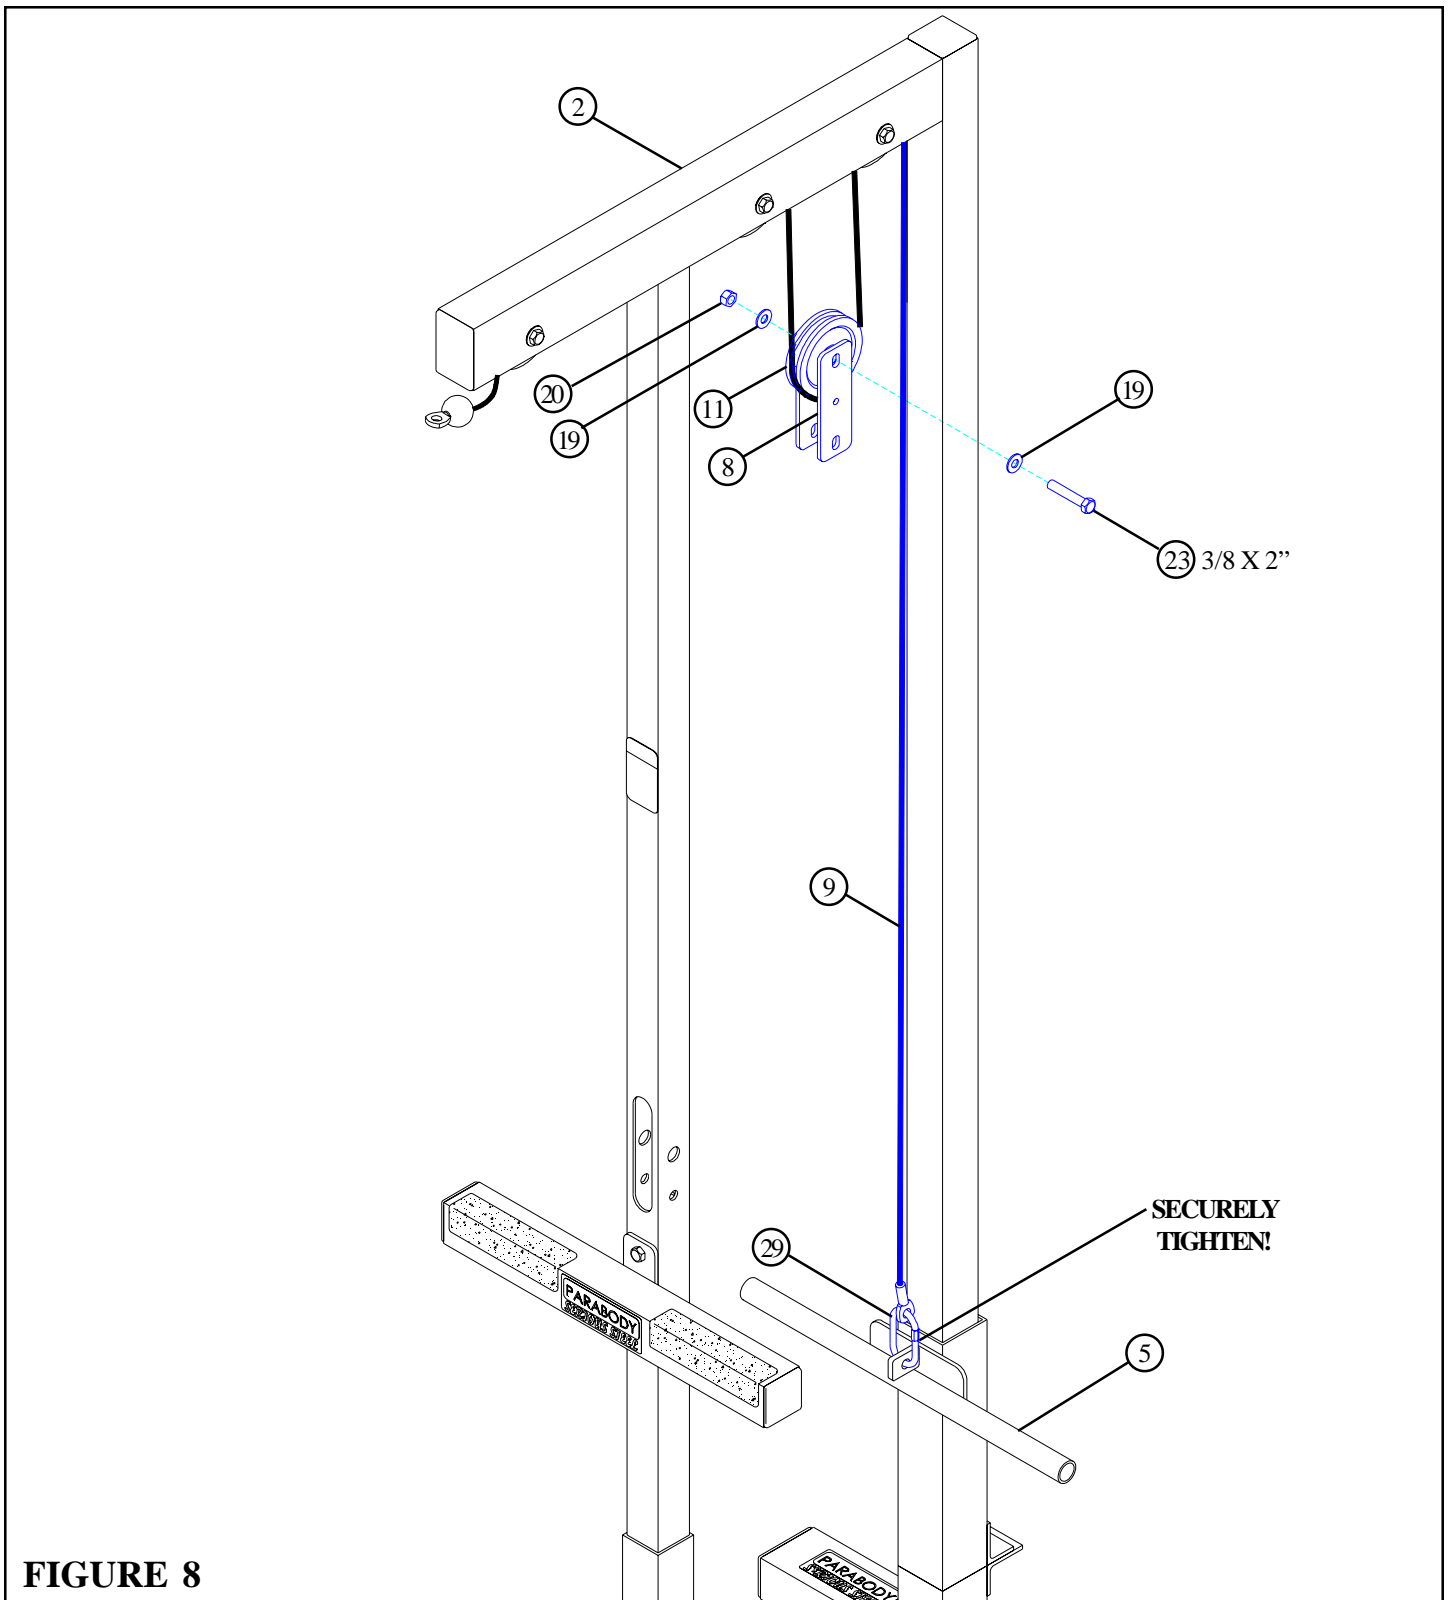

FIGURE 8
- Attach the CABLE (9) from the UPRIGHT (2) to the CARRIAGE (5) using one 1/4" QUICK LINK (29) as shown in FIGURE 8. (**IMPORTANT! Securely tighten QUICK LINK.**)
- Place one 3-1/2" PULLEY (11) into the loop of the CABLE (9) below the second and third PULLEY of the UPRIGHT (2) as shown in FIGURE 8.
- **LOOSELY** assemble two 3/16 X 1-3/4 X 5-1/4" PLATES (8) to each side of the 3-1/2" PULLEY (11) using one 3/8 X 2" BOLT (23), two 3/8" WASHERS (19), and one 3/8" LOCK NUT (20). See FIGURE 8.